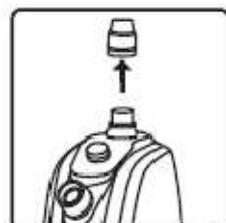

fig.6
2. Unscrew and remove the fastening lock from the base of the steamer. (fig.6)